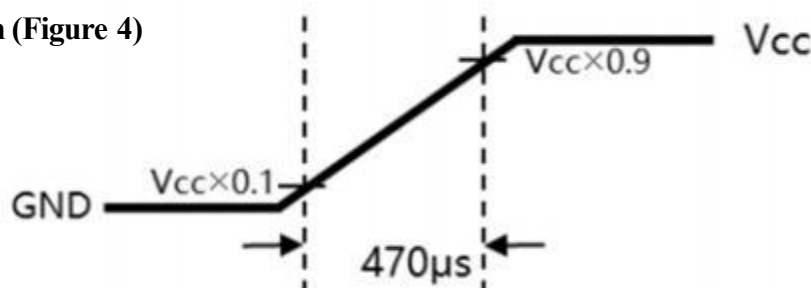

Figure 4. Inrush Measure Condition
(2)Measure condition (Figure 4)